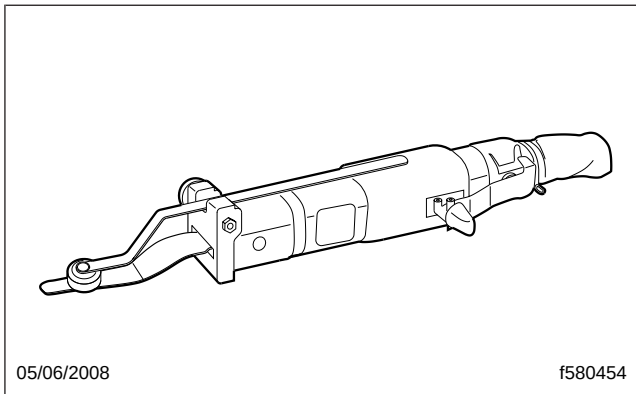

Fig. 3, Pneumatic Cutting Tool With Depth Control Blade
10. Using a pneumatic cutting tool equipped with a depth control blade (**Fig. 3**) cut the seal from the windshield opening. Leave a thin layer of adhesive, no more than 3/64 to 6/64 inch (1 to 2 mm), in place around the windshield opening for a good base for the new adhesive. Discard the seal. If any bare metal is present on the windshield mask (pinch weld) due to corrosion or loosened adhesive, remove the loosened adhesive. Scuff any visible corrosion to leave a bare metal surface. Lightly scuff the mask surface where any loose adhesive was removed. Clean any loose debris off the windshield mask with a clean, dry towel.